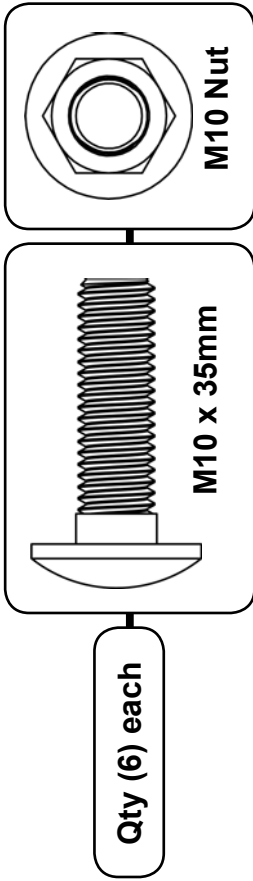

Fig. 1
1. Install Deflector (D) and Top Plate (E) to Blade (A) with M10-1.50 x 35mm Lg. CHCS and M10-1.50 Nylock Nuts. See Fig. 1.